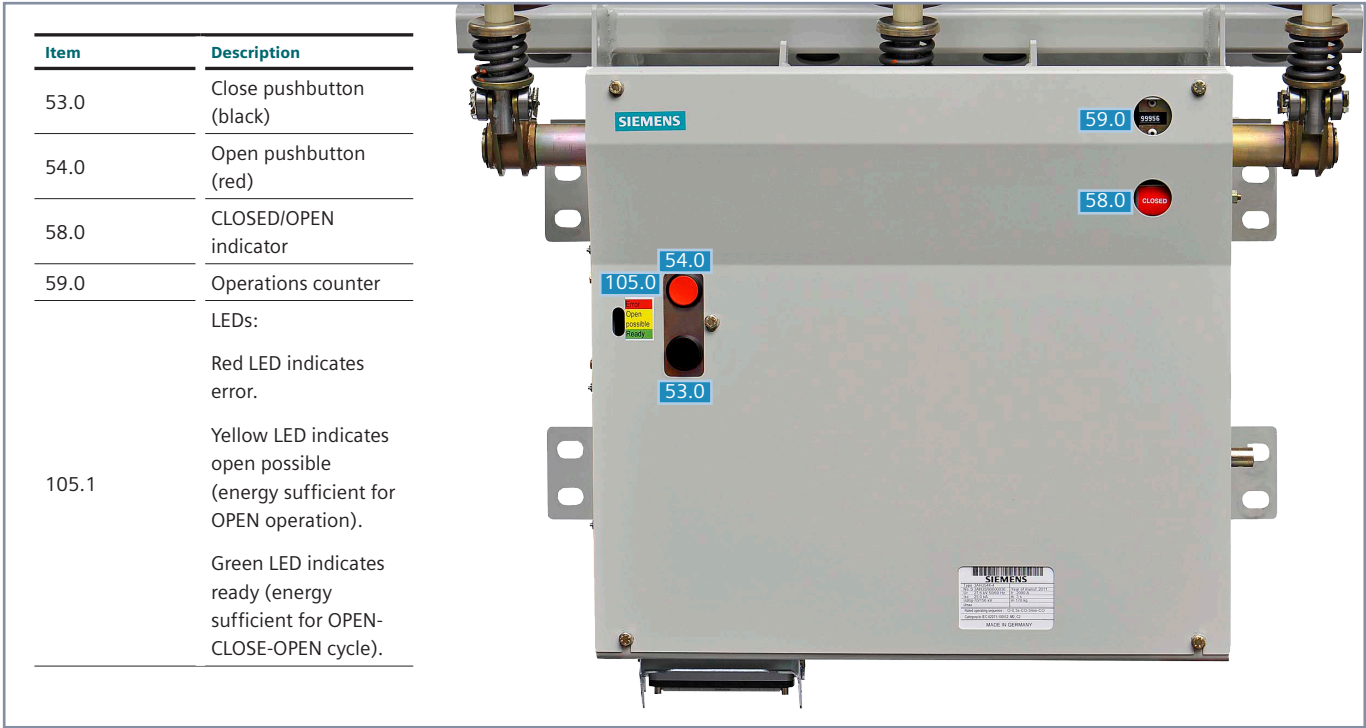

Figure 3: Operator panel controls
2. Use the Close and Open pushbuttons on the circuit breaker operating mechanism (refer to Figure 3: Operator panel controls) to first close, and then open the circuit breaker contacts. Verify contact positions visually by observing the OPEN/CLOSED indicator on the circuit breaker.
The insulators also connect to the fixed- and moving-end pole heads (20.0 and 40.0) that in turn support the ends of the vacuum interrupter. Refer to Figure 3: Operator panel controls and Figure 4: Vacuum circuit breaker magnetic-actuator operator module, Figure 7: Pole assembly, and Figure 8: Magnetic-actuator operating mechanism.